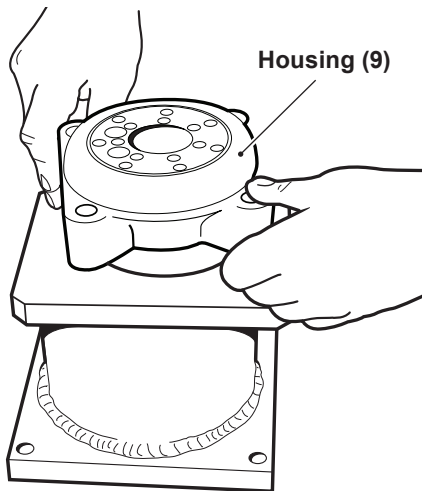

Figure 4, Service Position
1. Mount seal (5), washer (4), and ball bearing (3) onto output shaft (7). See page 11.
2. Place the motor housing (9), with holding fixture into hydraulic press. See figure 4.